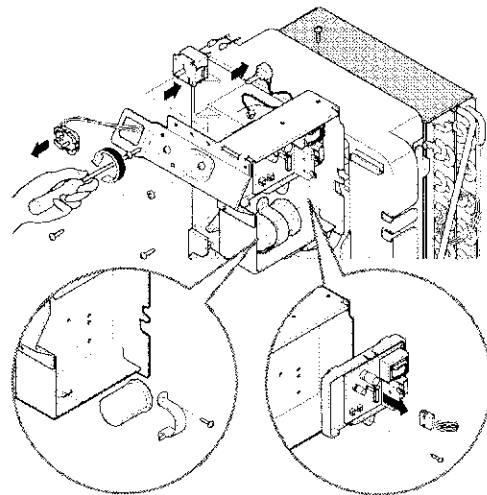

Figure 9
1. Remove the screw that fastens capacitor. (See Figure 9.)
1. Disconnect the sensor housing assembly. (See Figure 9.)